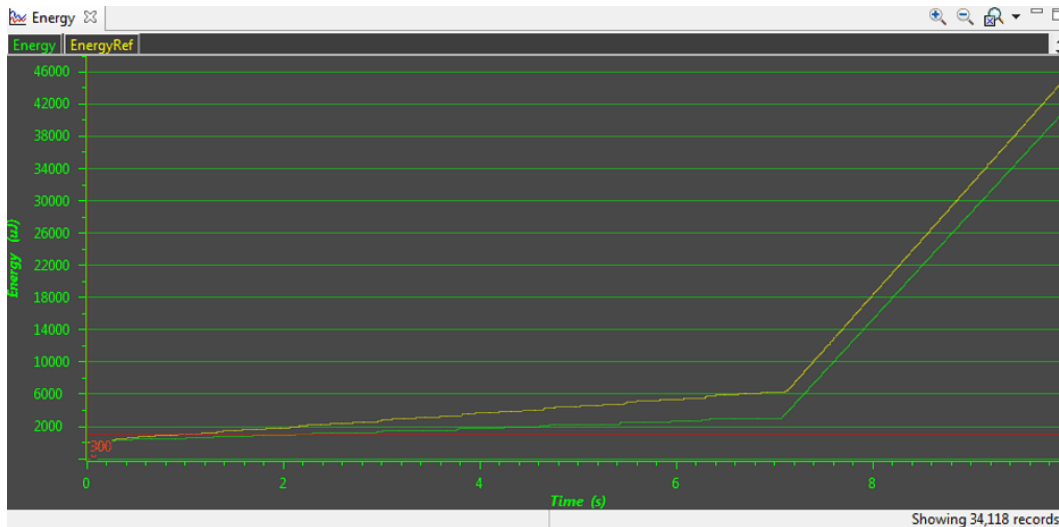

Figure 27. Energy Profile of the Same Program in Resume (Yellow Line) and Free Run (Green Line)
**NOTE:** During program execution through the debugger's view **Resume** button, the target microcontroller is constantly accessed by the JTAG or Spy-Bi-Wire protocol to detect when a breakpoint has been hit. Inevitably, these debug accesses consume energy in the target domain and change the result shown in both Energy and Power graphs. To see the absolute power consumption of an application, TI recommends using the **Free Run** mode. In Free Run mode, the debug logic of the target microcontroller is not accessed. See Figure 27 for an example of the effect of energy consumption coming from debug accesses. The yellow profile was recorded in **Resume** mode, and the green profile was recorded in **Free Run** mode.